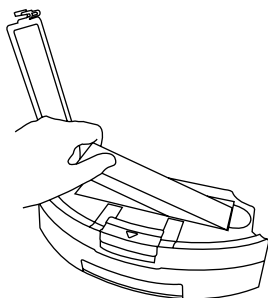

Figure 1
1. Open the HEPA filter cover to clean it (Figure 1). The HEPA filter cannot be cleaned, otherwise it would become damaged.